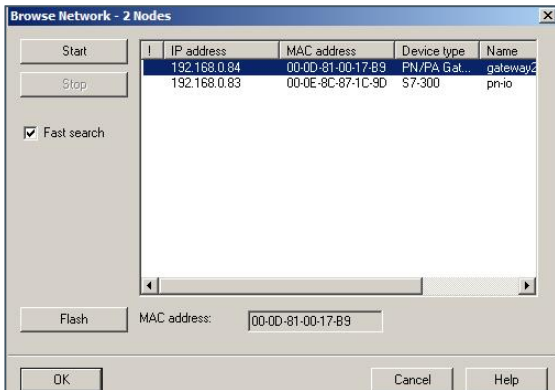

Figure 69: Search for the gateway with MAC address
- 4) The search will be carried out automatically. Once the gateway is detected via the MAC address, select the gateway corresponding to the **MAC address** and click **OK** (see: Figure 69: Search for the gateway with MAC address).